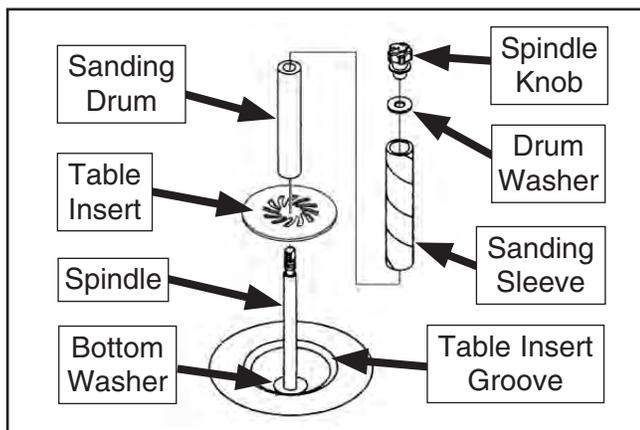

Figure 14. Drum and sleeve installation/removal order.
IMPORTANT: Always use one of the 2" drum washers as the bottom washer (see **Figure 14** on **Page 19**).
4. Make sure bottom washer is installed (see **Figure 14**).
5. Install appropriate table insert (refer to **Selecting Sanding Drums & Sleeves** on **Page 18**) for sanding drum that will be installed (see **Figure 14**).
7. Install sanding drum and appropriate matching size drum washer (refer to **Selecting Sleeves** on **Page 18**) on spindle (see **Figure 14**).